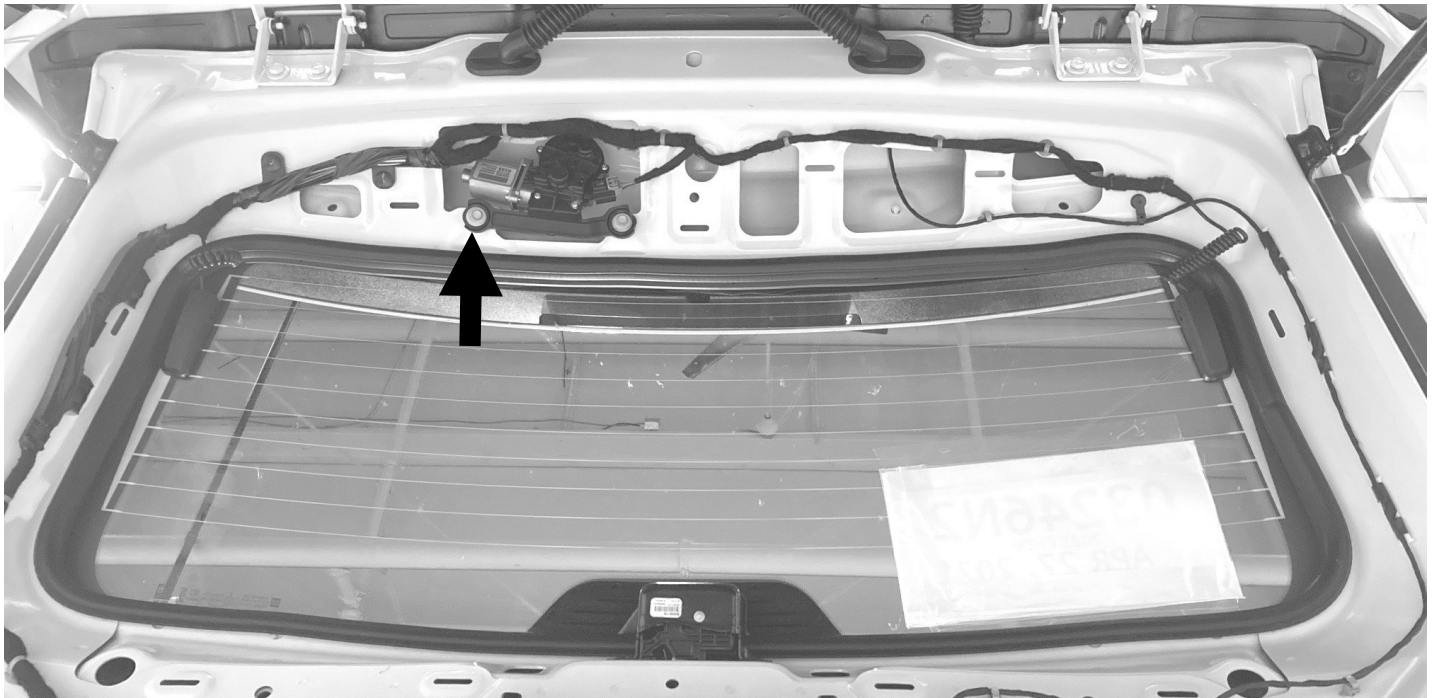

Fig. 4
- B. Remove outer mounting bolt from wiper motor with 10mm socket. (Fig. 4)